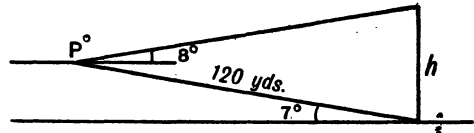

FIG. 106. DIAGRAM FOR EXAMPLE 5
5. A chimney stands on a sloping hill whose gradient is 7° to the horizontal. From a point P 120 yd. up the hill, the angle of elevation of the top of the chimney is 8° , Fig. 106. Find the height of the chimney.